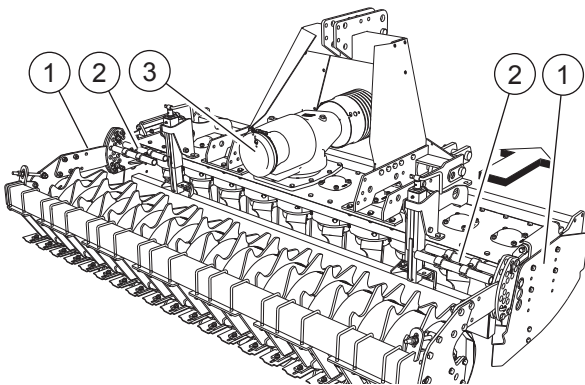

FIG. 23
- Protective side shield (1, "Fig. 23").
- Protective tubes against access to the blades area (2, "Fig. 23").
- PTO guard, rear side (3, “Fig. 23”).